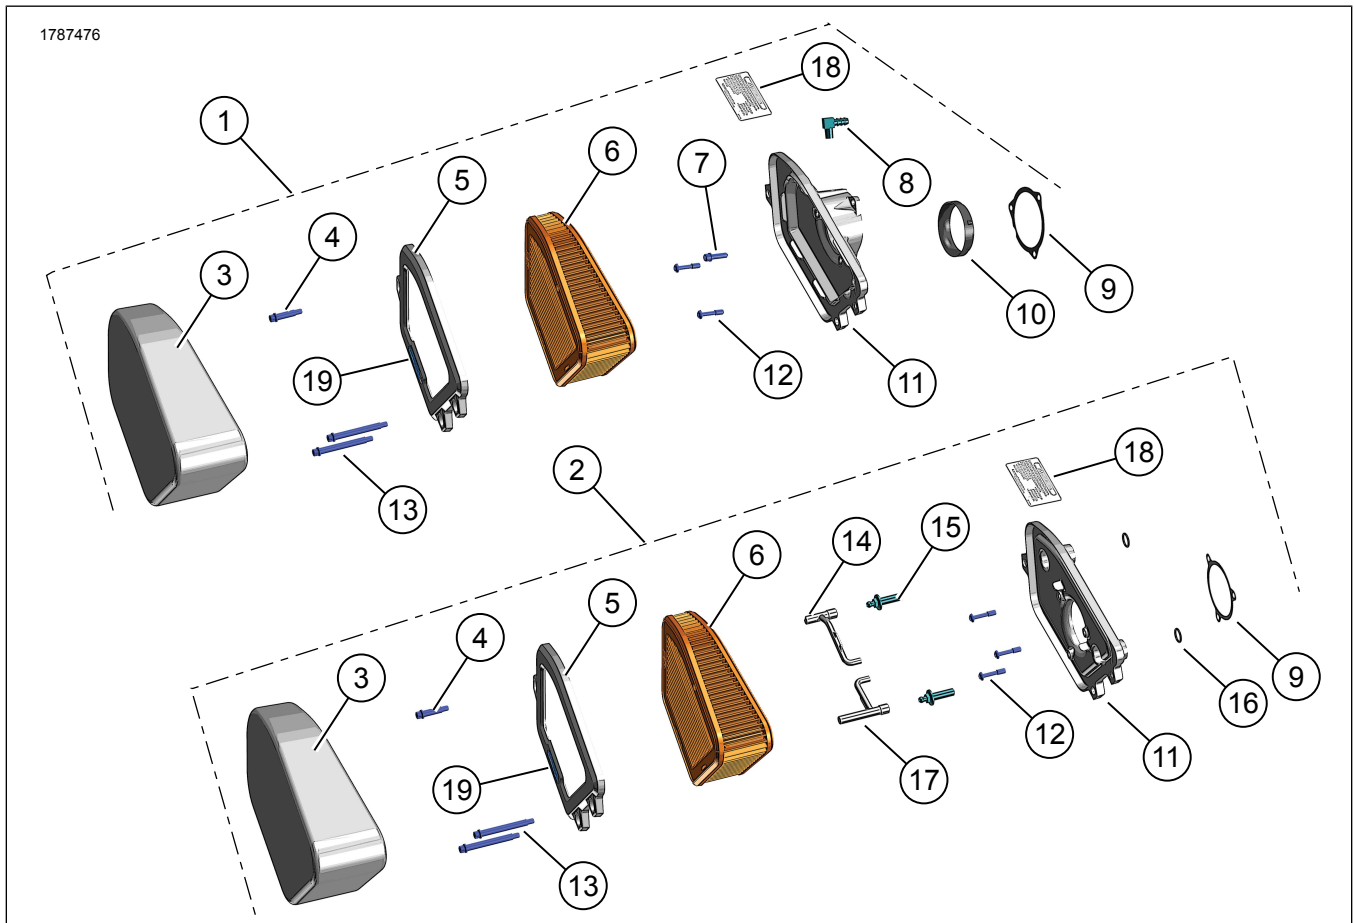

Figure 1. Kit Contents: Screamin' Eagle Extreme Wedge Air Cleaner
1. **Kits 29400459, 29400460:** See Figure 1. If using OE throttle body, insert throttle body adapter (10) into backplate (11).
2. Install gasket (9) to backplate (11).
3. Install breather fitting (8) into backplate (11) so it aligns with OE breather hose.
4. **Kits 29400466, 29400467:** Install O-rings (16) into backplate (11) at interface to cylinder heads.
- a. **Kits 29400466, 29400467:** Install captive screws (12).
- b. **Kits 29400459, 29400460:** Install OE socket head screw (7) at top location. Tighten.